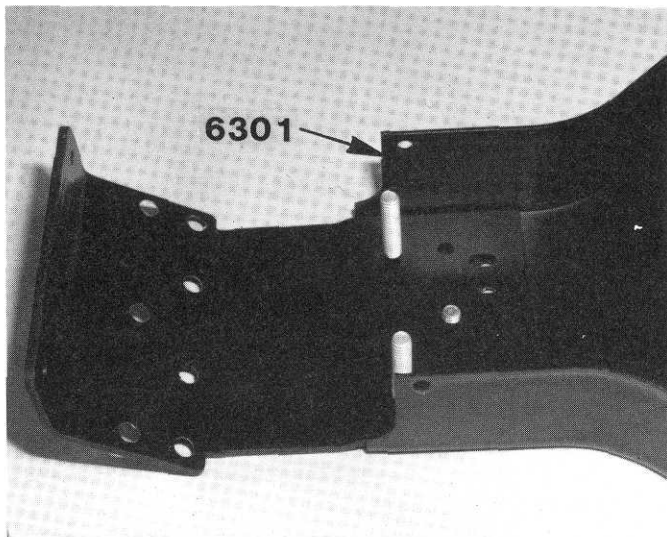

Fig. 2
□ **Fig. 2** Take the black aluminum chassis #6301 and install the nose piece, as shown, with the #2 Phillips screwdriver. Note that all the chassis screws are aluminum and can be easily damaged by a worn screwdriver, Be sure yours is in good condition.